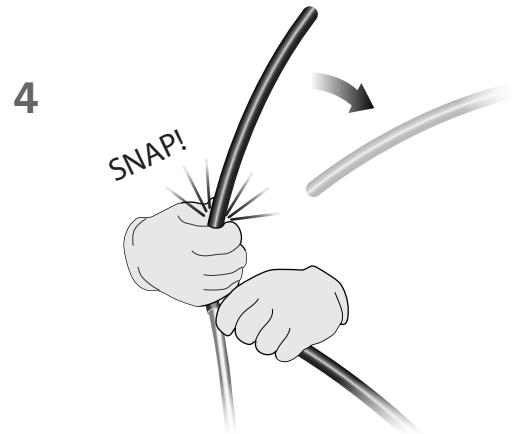

Figure 7
**Step 4:** Using hands or needle nose pliers to start, pull off jacket down to the ring cut (Figure 6). Snap off the jacket by hand or if necessary use cutters (Figure 7).